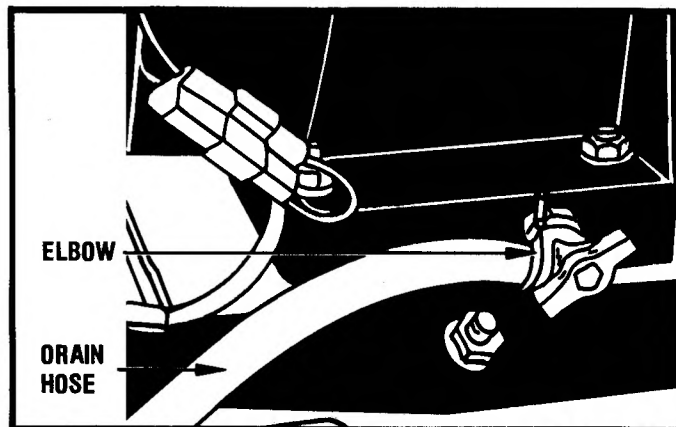

FIGURE 16
1. Remove oil drain plug from the right hand side of engine base. Install reducer and elbow and tighten until elbow outlet is toward rear of machine. Install drain hose with clamp onto elbow. See Figure 16. Remove plastic cover on oil fill tube and discard.